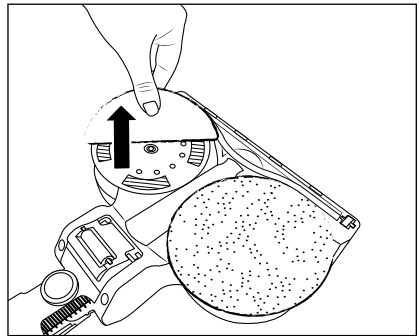

Fig. 17
- ◆ To remove a mop pad **34** from the mop attachment **31**, grip it with your fingers and pull it upwards off the mop attachment **31** (see Fig. 17).